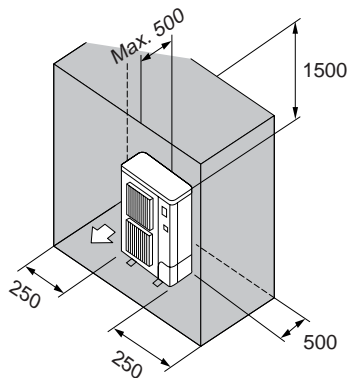

Fig. 4-11
- ⑥ Obstacles at rear, sides, and above only (Fig. 4-11)